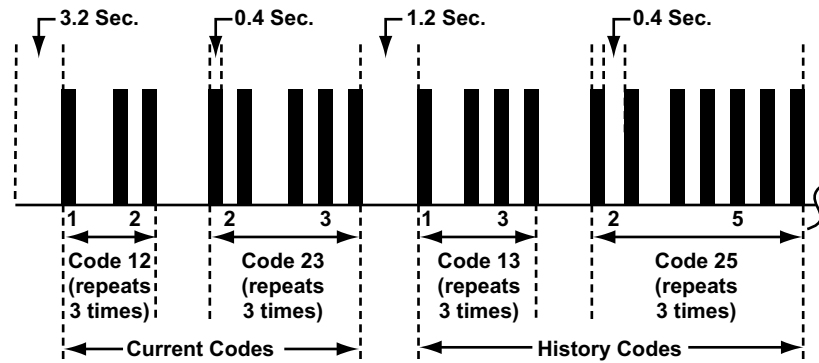

Figure 8-20 Honda SRS Code Type 03
- Type 03, see Figure 8-20 and Table 8-11 on page 68